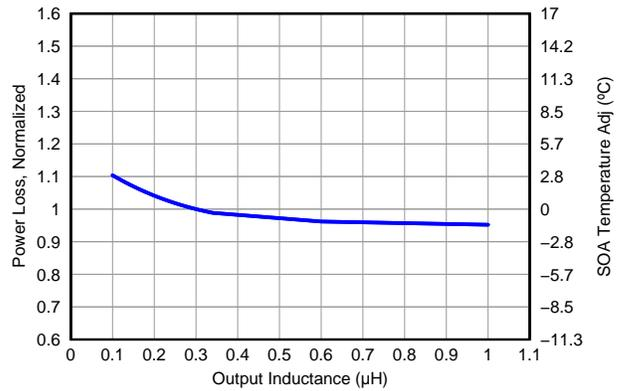

Figure 15. Normalized Power Loss vs Output Inductance
- Normalized Power Loss for output inductor \approx 1.04 (Figure 15)
- SOA adjustment for output inductor \approx 1.3 $^{\circ}$ C (Figure 15)